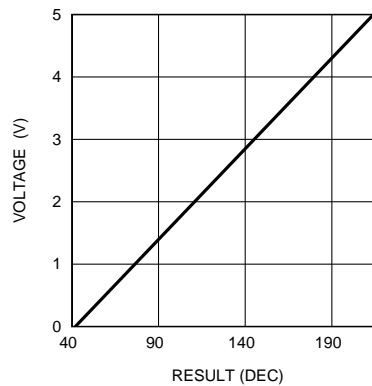

Figure 25. LED Test Results vs. Measured Voltage
- This is used to store the LED test result. Read-only register. LED test ADC's least significant bit corresponds to 30 mV. The measured voltage V (typ.) is calculated as follows: $V = (\text{RESULT(DEC)} \times 0.03 - 1.478 \text{ V})$. For example, if the result is 10100110 = 166(DEC), the measured voltage is 3.50V (typ.). See Figure 25 below.